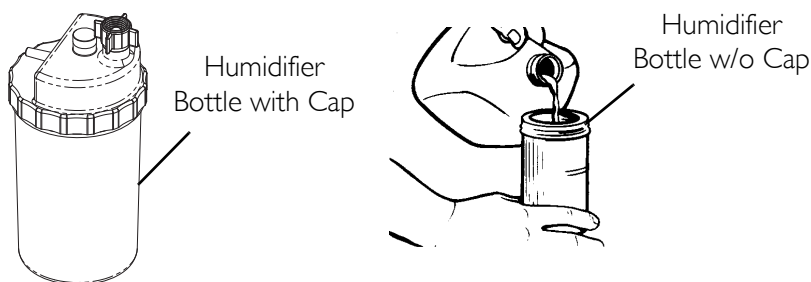
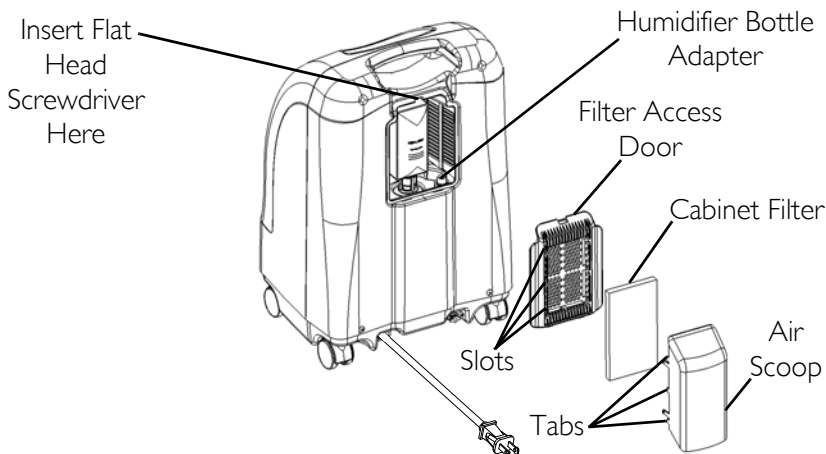
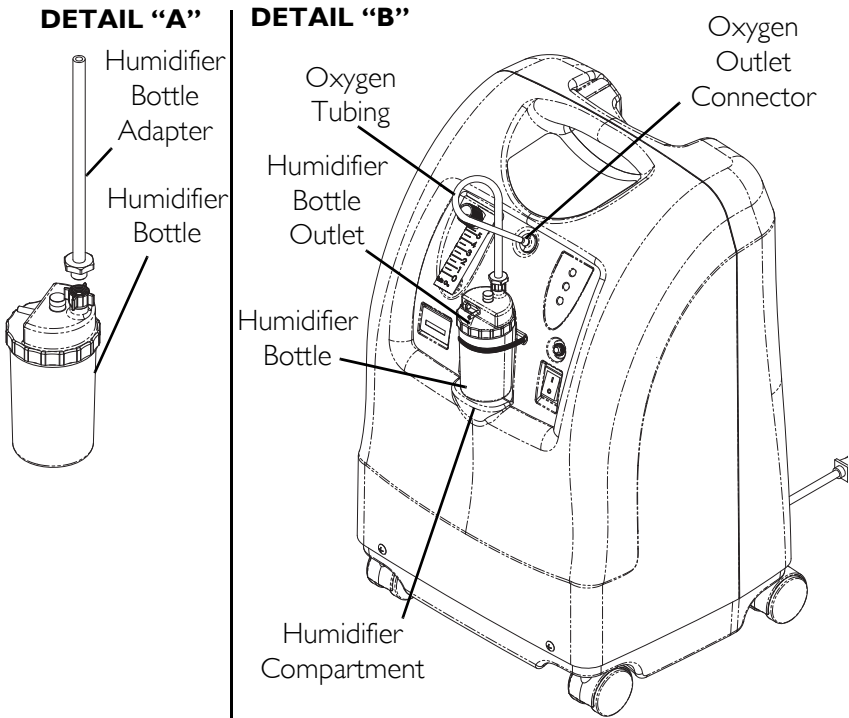

FIGURE 6.1 Filling the Humidifier
FIGURE 6.2 Humidifier Bottle Adapter
FIGURE 6.3 Humidifier Compartment
NOTE: For this procedure, refer to FIGURE 6.1, FIGURE 6.2 on page 19, FIGURE 6.3 on page 21.
3. Insert a flathead screwdriver in the plate groove on the top edge of the filter access door and gently pry the filter access door off (FIGURE 6.2).
4. Pull up and remove the humidifier bottle adapter (FIGURE 6.2).
6. Attach the humidifier bottle adapter to the humidifier bottle by turning the wing nut on the humidifier bottle counterclockwise until it is securely fastened. See Detail "A" in FIGURE 6.3.
- When placing the humidifier bottle in the compartment on the concentrator, attach the humidifier bottle/adapter tube to the oxygen outlet connector on the concentrator. See Detail “B” in FIGURE 6.3.
8. Attach the patients' nasal cannula supply tube to the humidifier bottle outlet. See Detail “B” in FIGURE 6.3.